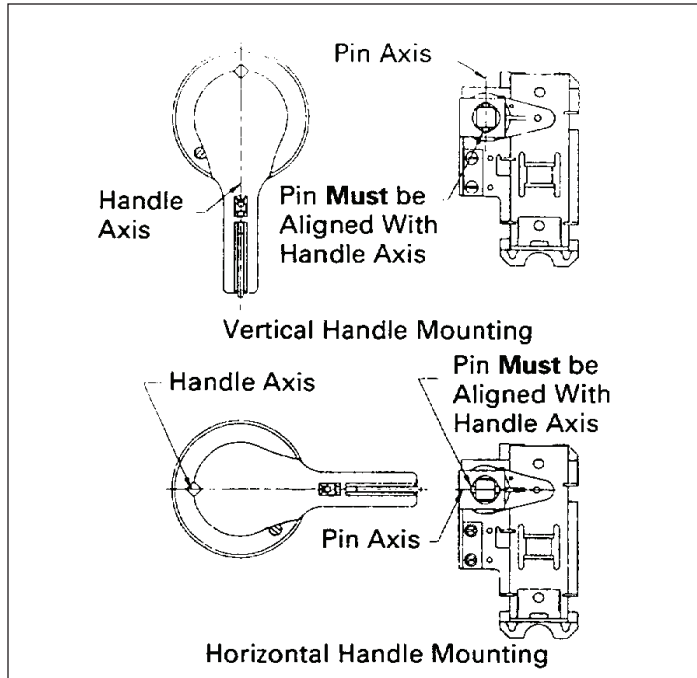

Figure 5. Horizontal Handle Mounting.
4. Place the square end of shaft into the square opening of die cast pivot link on the operating mechanism attached to the circuit breaker. Ensure the pin is in the shaft and correctly oriented with respect to anticipated handle position (vertical or horizontal handle placement, see Figure 5). Insert the set screw from the hardware kit into pivot link and torque to 50 lb.-in (5-6 N•m).